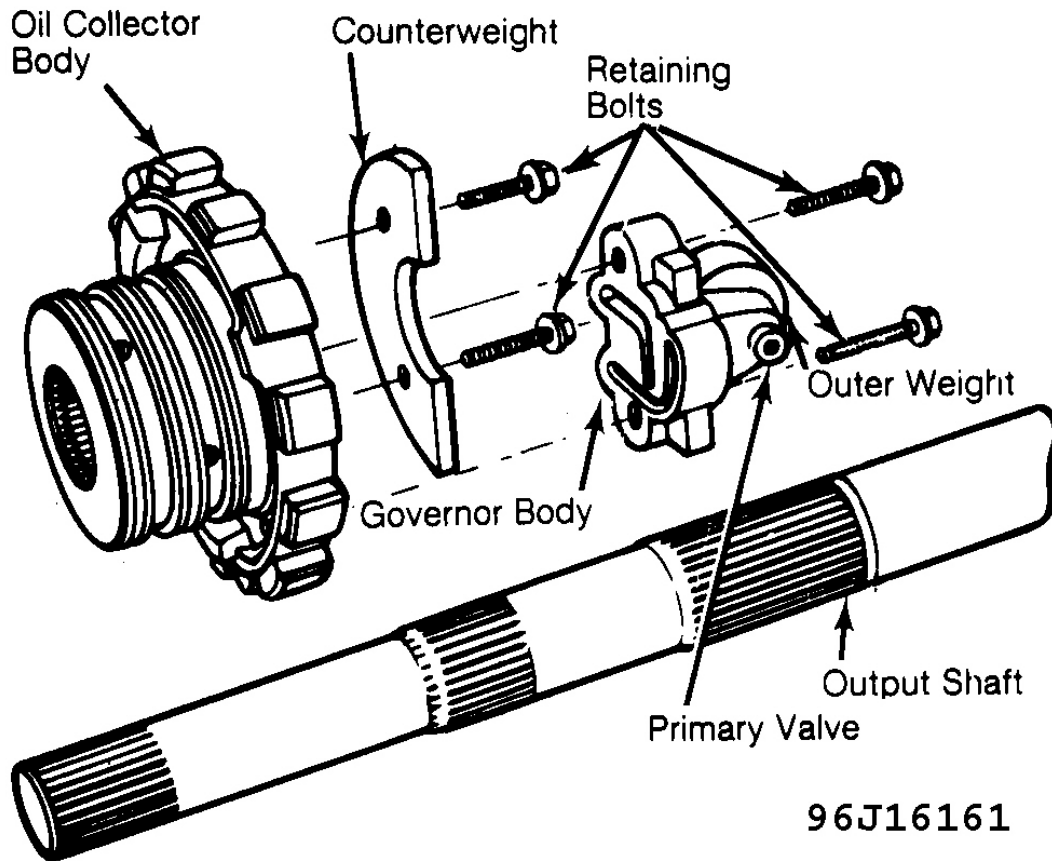

Fig. 30: Exploded View of Governor Assembly
2. Assemble counterweight, spring, and primary valve in governor body. Assemble governor body and counterweight to oil collector body. Ensure fluid passages are not covered with counterweight. See **Fig. 30**.